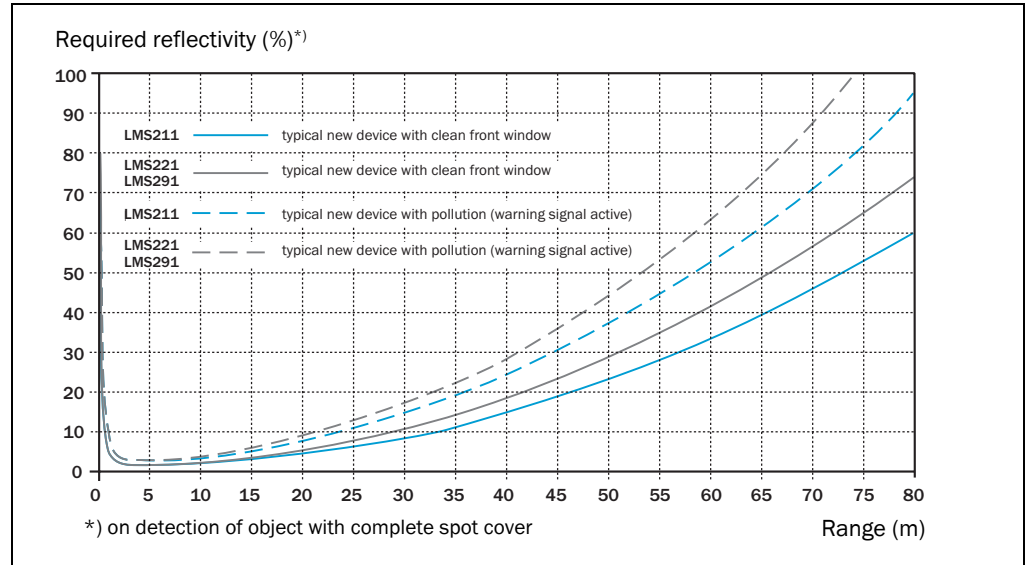

Fig. 4-2: LMS211/LMS221/LMS291: Relationship between reflectivity/range with good visibility
- Values for standard setting (see Fig. 4-2): 30 m range/10 % reflectivity